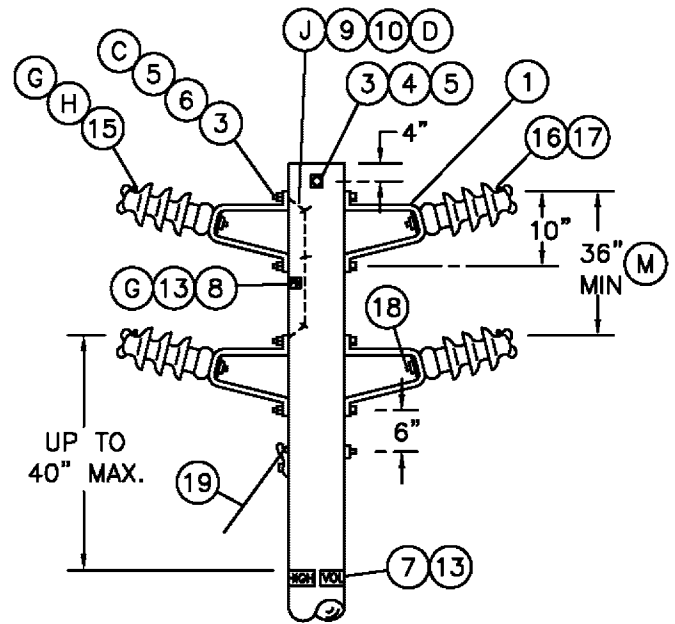

FIGURE 2
- (C) INSTALL DOUBLE COIL SPRING WASHER SO IT CONTACTS BRACKET.
- (D) BONDING OF THE BRACKETS IS ONLY REQUIRED WITHIN HEAVY CONTAMINATION AREA, DISTRICT 1 ON PAGE 287. USE BONDING PROVISIONS ON BRACKETS, IF THEY ARE FURNISHED.
- (F) SUBSTITUTE A CLASS 55-3 INSULATOR (STOCK NO. 429216) FOR NEUTRAL IDENTIFICATION.
- (G) IF A SMALLER LINE POST INSULATOR IS NOT AVAILABLE FOR NEUTRAL AS COMPARED TO THOSE ON THE PHASE POSITION, THE "PN" SIGN SHALL BE USED TO IDENTIFY THE NEUTRAL.
- (H) RESISTANCE GLAZE (RG) CLAMP TOP POST INSULATORS (STOCK NO 428952) SHALL BE USED WHEN AVAILABLE ON TRIAL APPLICATIONS ON PHASE CONDUCTORS IN HEAVY CONTAMINATION AREAS AS DEFINED ON PAGE 287 AND ONLY USING FIGURE 2 CONSTRUCTION. CONDUCTOR CLAMPS ARE REQUIRED WITH "RG" INSULATORS. INSTALL A "DO NOT WASH" SIGN ABOVE THE POLE TAGS IN SIGHT OF ON-COMING TRAFFIC.